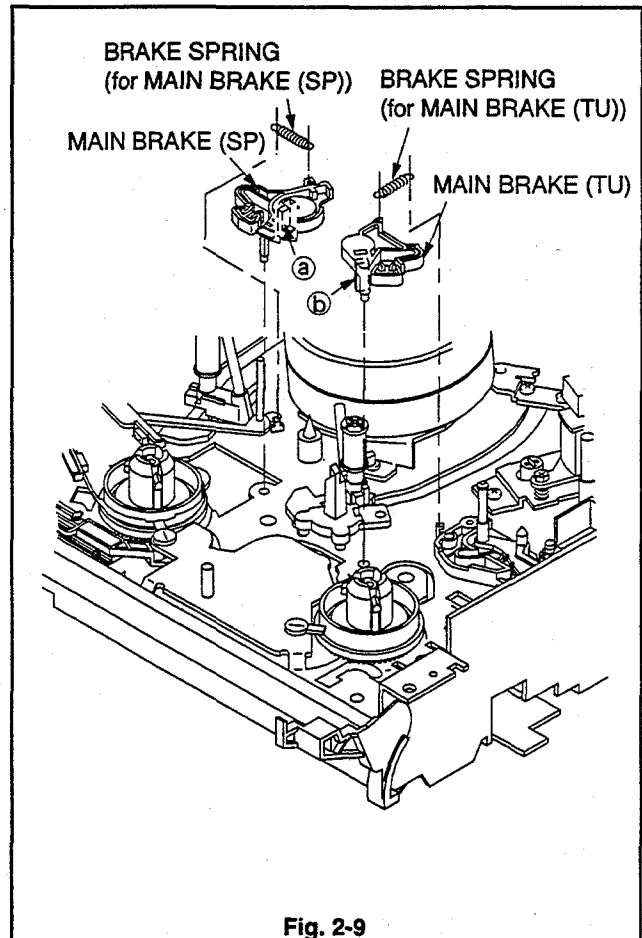

Fig. 2-9
1. Remove the BRAKE SPRING (for MAIN BRAKE (SP)) shown in Fig. 2-9.
2. Use tweezers to unfasten Catch (a) of the MAIN BRAKE and remove the MAIN BRAKE (SP), refer to Fig 2-9.
3. Remove the BRAKE SPRING (for MAIN BRAKE (TU)) shown in Fig. 2-9.
4. Unfasten the Catch (b) of the MAIN BRAKE (TU) shown, in Fig. 2-9, to remove the MAIN BRAKE (TU).
1. Install the MAIN BRAKE (TU) shown in Fig. 2-9.
2. Install the BRAKE SPRING (for MAIN BRAKE (TU)) shown in Fig. 2-9.
3. Install the MAIN BRAKE (SP) shown in Fig. 2-9.
4. Install the BRAKE SPRING (for MAIN BRAKE (SP)) shown in Fig. 2-9.